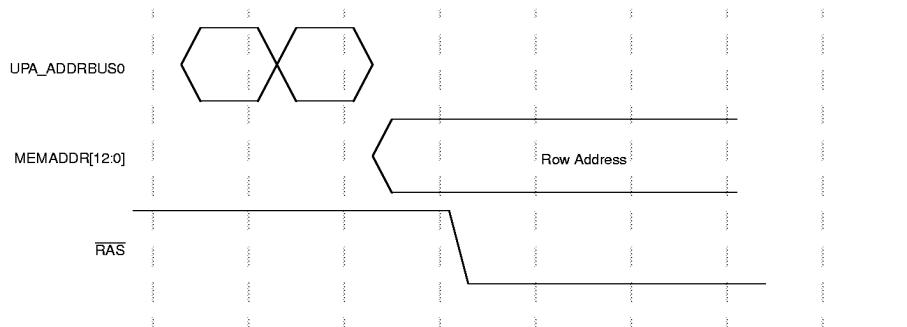

**Figure 21. Basic Refresh Timing**
*Figure 21* shows a generic template for a refresh operation.